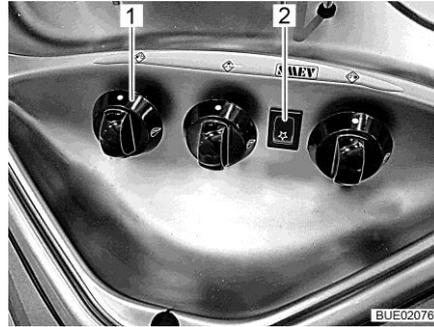

Fig. 231 Operating controls for gas cooker
- Turn the control knob (Fig. 231,1) on the burner you wish to use to the ignition position (large flame).
- Press lighting knob (Fig. 231,2). Ignition sparks are generated at the burner.